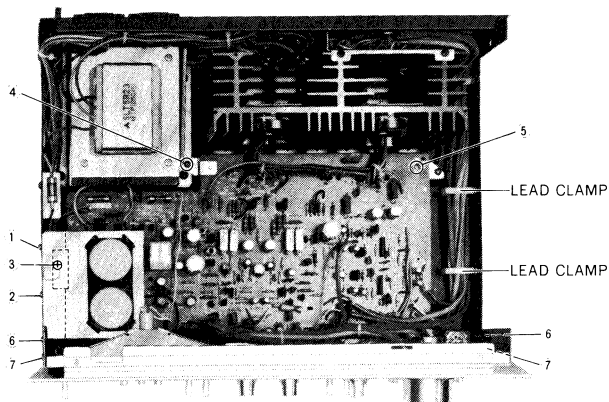

Fig. 2
6. Remove two (2) printed circuit board-mounting screws. (Refer to Fig. 2: ④ and ⑤)
7. Remove four (4) panel-mounting screws. (Refer to Fig. 2: ⑥ and ⑦ , left and right side.)
2. Remove lead wire from lead clamps. (Refer to Fig. 2).
3. Remove two (2) electrolytic capacitor-bracket-mounting screws. (Refer to Fig. 2: ① and ②).
5. Remove a screw (Refer to Fig. 2: ③) and printed circuit board-metal clamp.